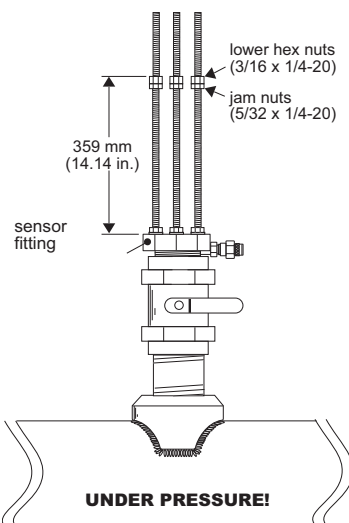

Fig. 9
- B. Thread one jam nut and lower hex nut onto each threaded rod so that the top surface of each nut is 359 mm (14.14 in.) from the top surface of the sensor fitting. Secure each hex nut with a jam nut. (Fig. 9)